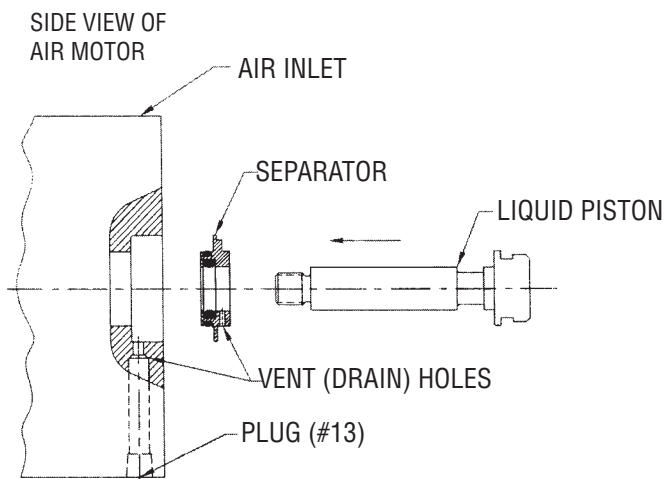

FIG. 1:
1. For Kits 4SK5, 4SK10, 4SK21, 4SK34, and 4SK64: Slide liquid piston rod (45) through separator as shown in Fig. 1.